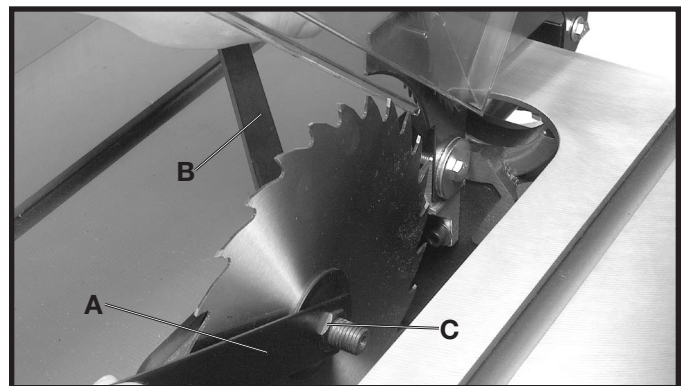

Fig. 73
3. Place the open end wrench (B) Fig. 73, on the flats of the saw arbor to keep the arbor from turning, and using box end wrench (A), turn the arbor nut (C) counterclockwise. Remove arbor nut, blade flange and saw blade.
4. Assemble the new blade, making certain the teeth are pointing down at the front of the saw table and assemble outside blade flange and arbor nut. With wrench (B) Fig. 73, on the flats of the arbor to keep it from turning, tighten arbor nut by turning box end wrench (A) clockwise.